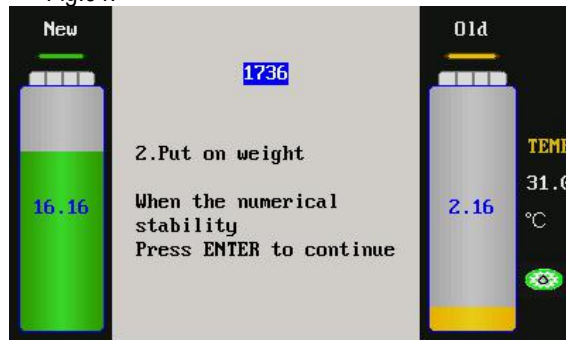

Fig.34
4) Remove the new fluid tank. When the value displayed on the interface is stable, please press OK key to save the data. The interface is as shown in Fig.34.